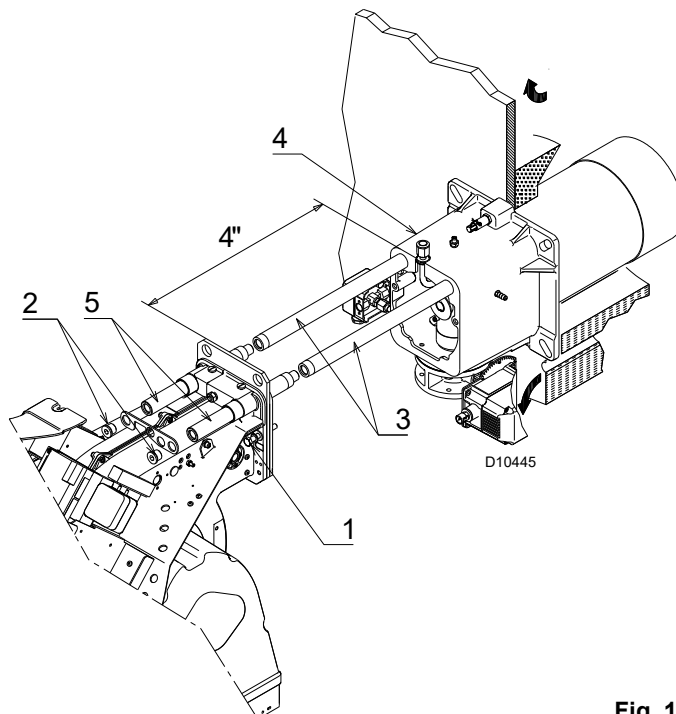
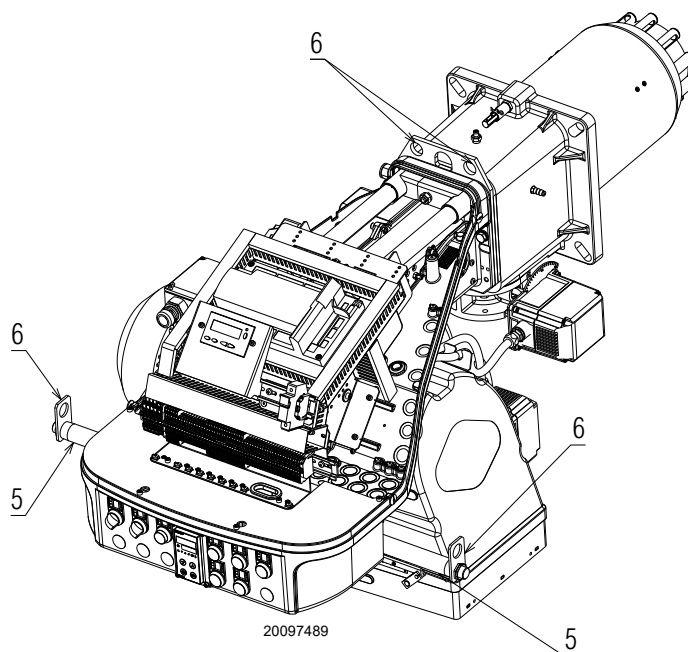

Fig. 17
Fig. 18
- push the burner on the sliding bars 3) at approximately 4" from the pipe coupling 4) - burner in the position shown in Fig. 17;
- insert the electrode cable, then slide the burner as far as the pipe coupling - burner in the position shown in Fig. 18;
- unscrew the 2 screws 2) from the extension 5) and reposition them as previously (Fig. 18).
Key (Fig. 17 and Fig. 18)